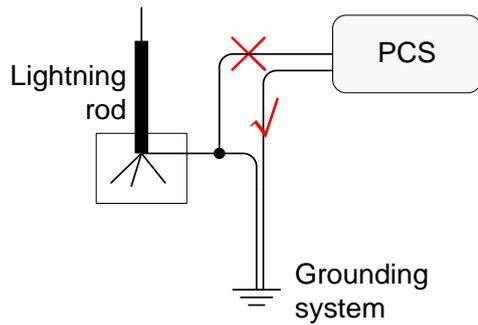

Figure3-14 Grounding diagram
- The grounding of the PCS and the lightning rod of the building that the PCS installed cannot be the same, the two need to be separated (as shown in Figure3-14), or lightning stroke will damage the PCS.